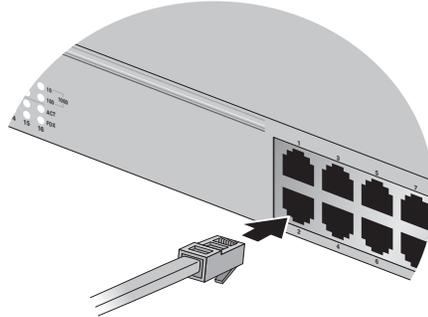

Figure 13 Connecting the Twisted Pair Data Cables
1. Connect the twisted pair data cables to the RJ-45 ports on the switch, as illustrated in Figure 13.